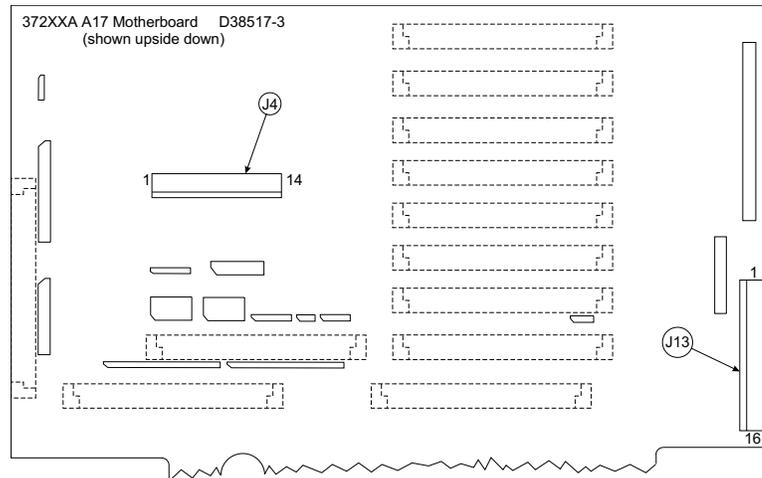

Figure 5-1. Location of Connectors for Power Supply Voltage Checks
- Step 4.** Using a DMM or an oscilloscope, measure the DC power supply voltages listed in Table 5-1. Connect the DMM/oscilloscope to the top of the cable connectors at J13 and J4 on the Motherboard (A17). Refer to Figure 5-1 and Table 5-1.
- Step 4.** Using a DMM and/or an oscilloscope, measure the power supply voltages at the power supply connector pins that correspond to the Motherboard pins for the + 9, ± 18, and ± 27 Vdc supplies. Refer to Table 5-1 and Figure 5-1 (previous page).
- Step 8.** Using a DMM and/or an oscilloscope, measure the +5 volt power supply at connector J13 on the Motherboard. Refer to Figure 5-1 and Table 5-1.